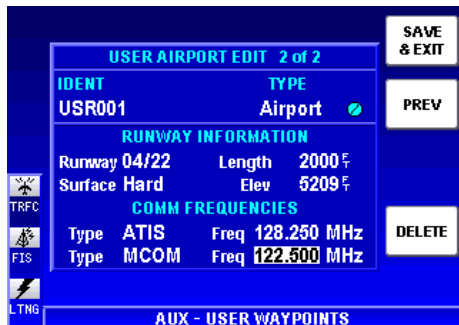

Figure 1-90
11. In a similar manner as previously discussed, use the Joystick and the Rotary Knob to enter the desired frequencies in the appropriate **Freq** fields as seen in Figure 1-90.